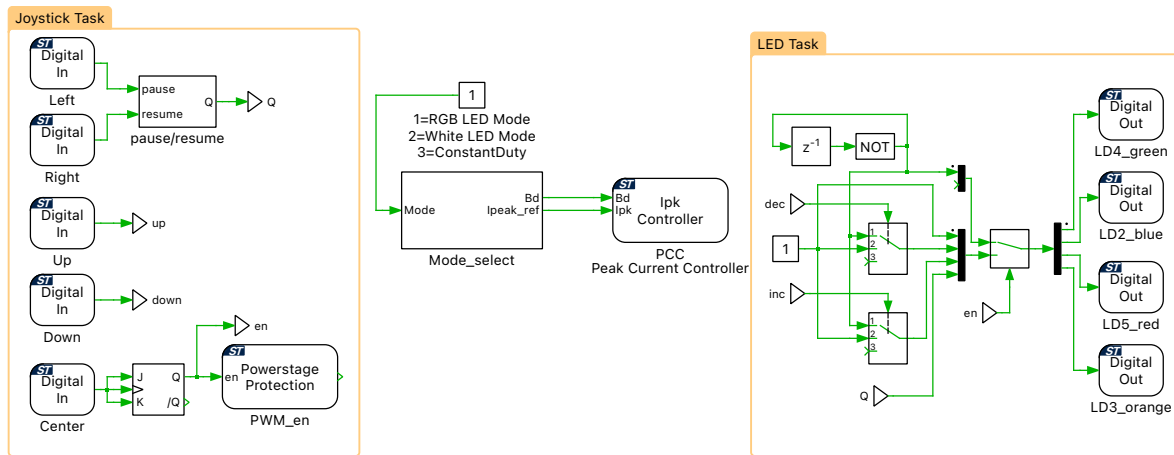
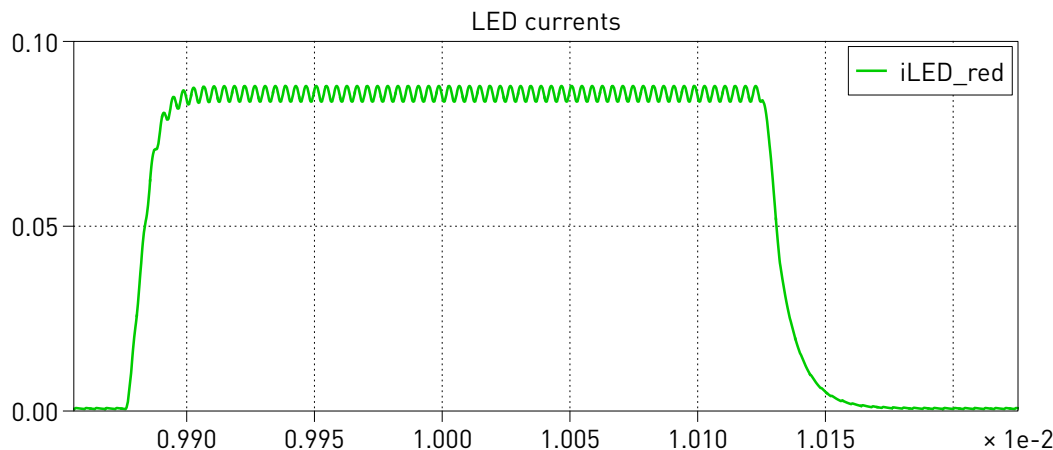

Figure 3: Controller subsystem
Figure 14: Current through the red LED with a constant Bd of 0.1
A detailed view of the “Controller” subsystem is shown in Fig. 3. The “Peak Current Controller” component is responsible for current regulation. The “Mode_select” subsystem allows the user to choose between different control modes for the RGB LED module. The B-G474E-DPOW1 Discovery kit’s joystick inputs are read as digital input signals that are used to start and stop mode cycling, set the global brightness level, and enable the PWM outputs. Four signal LEDs are used as indicators displaying the mode of operation.
The controller in Fig. 3 contains components from the STM32 Target library.
- **Powerstage Protection:** In order to enable or disable PWM signals during runtime, the center push button of the joystick B2 (labeled Center in Fig. 3) is used. The Powerstage Protection block implements a finite state machine to enable or disable all PWM outputs on the target MCU. A logic low to high transition enables the PWM outputs, while a high to low transition disables them.
Blocks in the PLECS schematic are assigned to lower priority tasks using the Task library component. In this model two lower priority tasks are defined in addition to the Base Task, as seen in Fig. 3. The table below lists the sample times of the lower priority tasks, with respect to the Base Task. The execution rate of the Base Task (f_c), in this case is 20 kHz.
Run the model as provided to observe the LED and inductor currents, as well as the PWM waveforms. If desired, the mode can be changed from the input labeled *Mode* of the subsystem labeled *Mode_select* in Fig. 3. The LED current waveform of the red LED, with a constant Bd of 0.1, is shown in Fig. 14. The offline model also allows the user to emulate pushing joystick buttons.
- 4** Then, return to the “Controller” schematic, and set the input labeled *Mode* to the subsystem labeled *Mode_select* in Fig. 3 to 2.